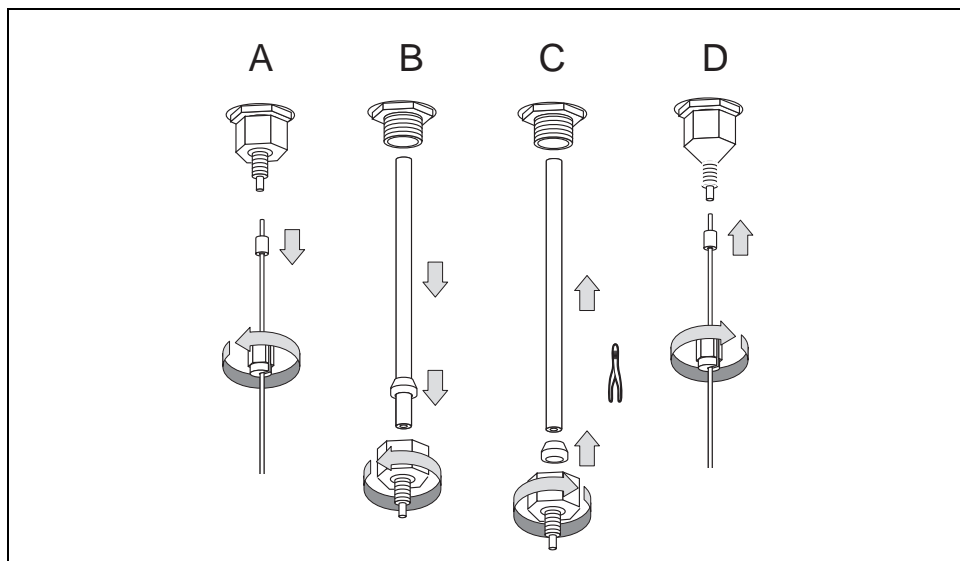

Figure 15-10. PPKD Injector Replace/Clean the Liner
4. Unscrew the nut that retains the analytical column, then remove the column with the inserted ferrule. See A of Figure 15-10
5. Unscrew the retaining nut at the bottom of the injector. Remove the adapter and the liner then remove the ferrule. See B of Figure 15-10.
8. Insert a ferrule on the new (or cleaned) liner, using tweezers to hold it. See C of Figure 15-10.
9. Insert the liner into the injector and push it gently upwards. Tighten the retaining nut with the adapter to close the bottom of the injector. See C of Figure 15-10.
10. Insert the analytical column with its ferrule into the bottom of the injector in its previous position, then tighten the M4 nut that retains the column. See D of Figure 15-10.